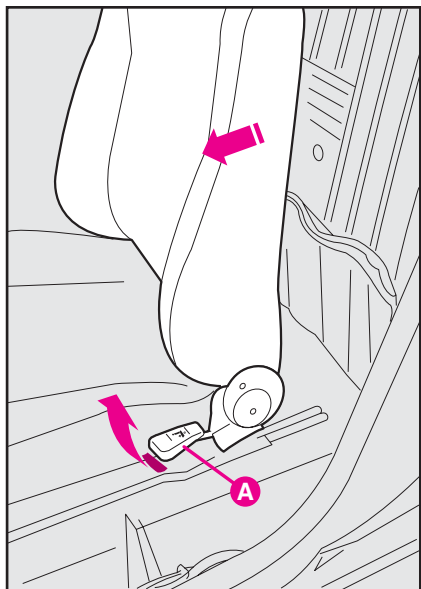
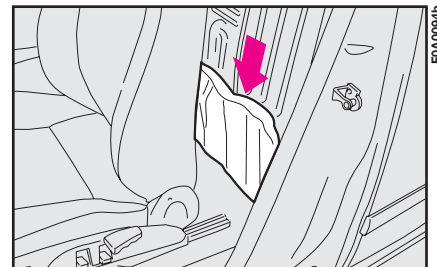
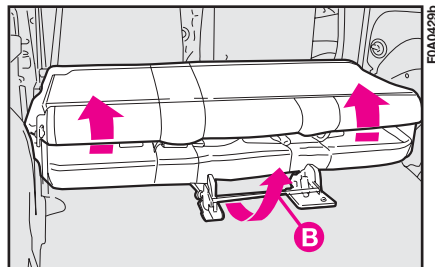
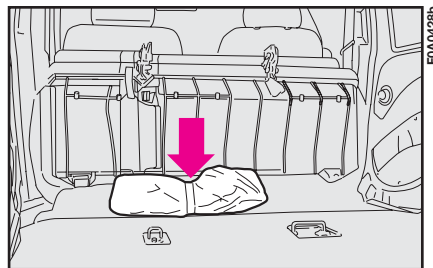

fig. 2
fig. 3
fig. 4
fig. 5
4) Either move the left-hand front seat back forwards (Fiat Doblò Cargo versions) lifting lever **A-fig. 2** and take the tool bag shown in **fig. 3** or lift the rear seat (for Fiat Doblò Passenger Transport versions) with lever **B-fig. 4** and take the bag shown in **fig. 5**. Take the bag to the wheel to be replaced.